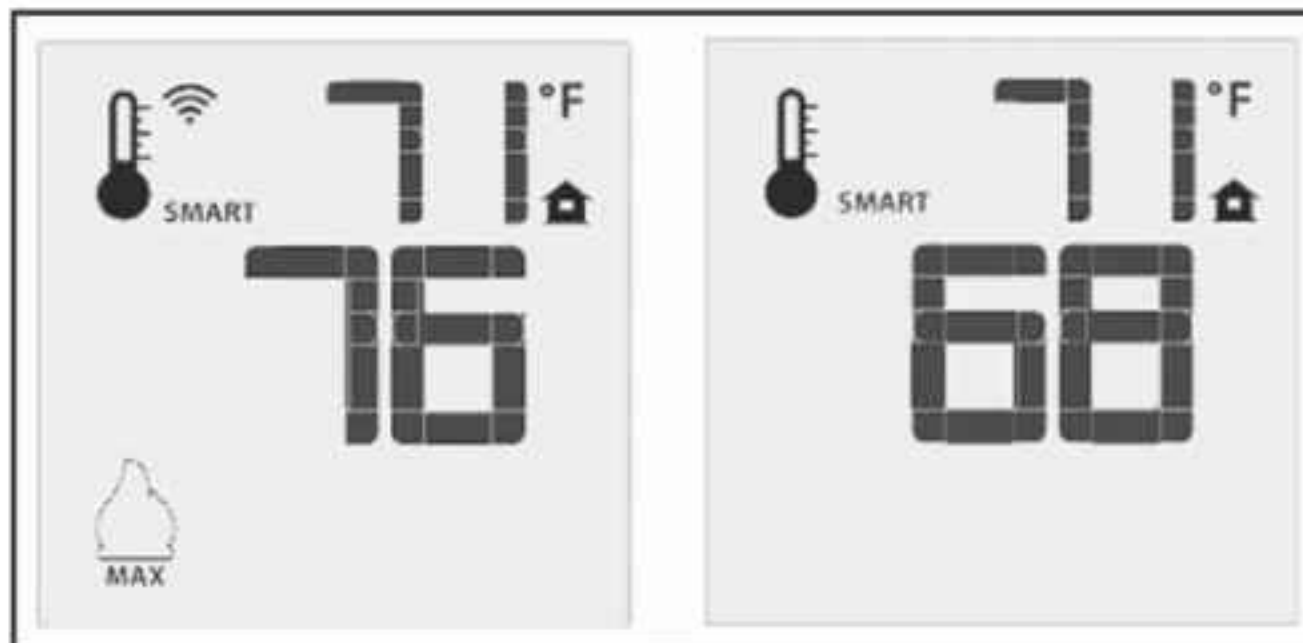

Figure 110: Remote Control's Smart Flame Function.
**Transmitter:** The life span of the remote control batteries depends on various factors: quality of the batteries used, the number of ignitions of the appliance, the number of changes to the room thermostat set point, etc. When the Transmitter batteries are low, a Battery Icon will appear on the LCD display of the Transmitter (see Figure 110) before all battery power is lost. When the batteries are replaced this icon will disappear.